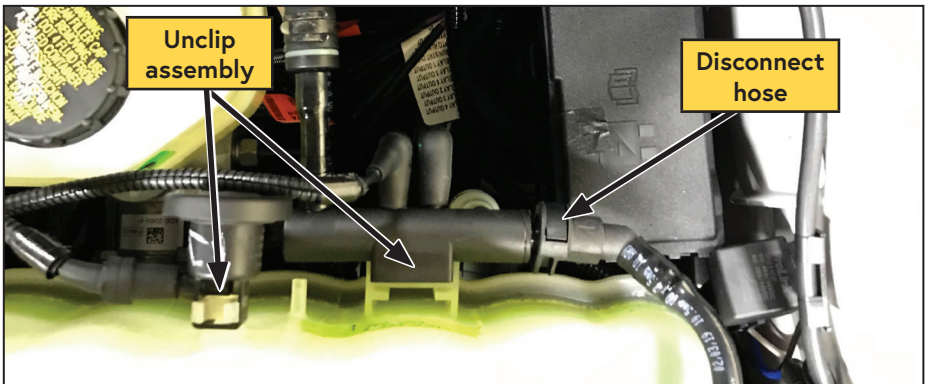

Figure 4 — Remove the vacuum assembly
- ☐ Unclip the vacuum assembly from the back of the primary degas bottle (Figure 4).
- ☐ Disconnect the vacuum line and secure it out of the way (Figure 4).